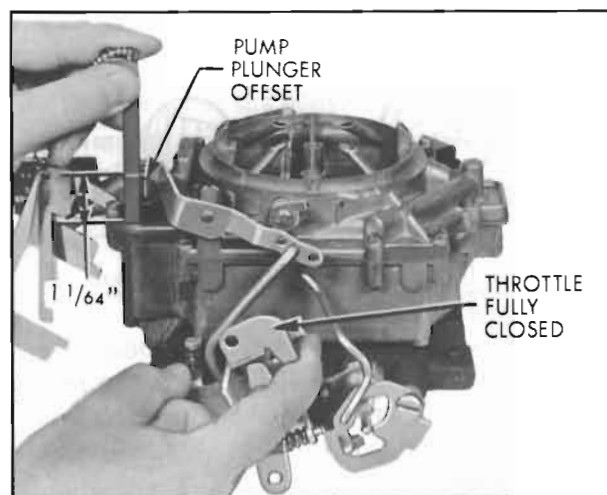

Figure 3-99—Checking Pump Plunger Adjustment
23. Push fast idle cam to full down position and back out throttle stop screw until primary throttle valves can be fully closed. With throttle held closed and pump rod in center hole of lever, measure vertically from under side of pump plunger offset to air horn casting. See figure 3-99. Measurement should be $1\frac{1}{64}$ ".